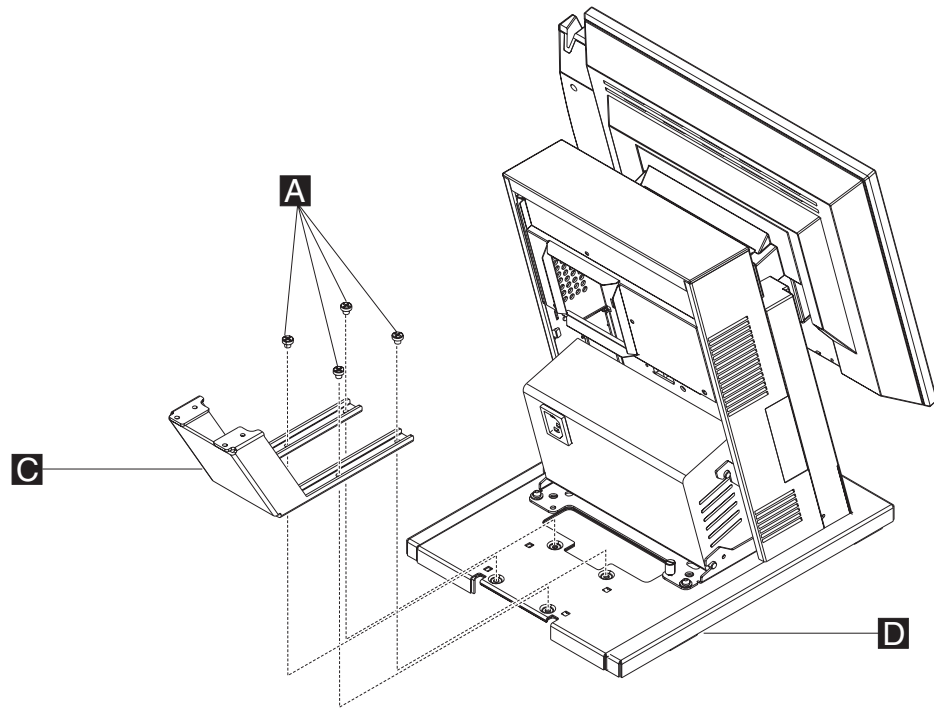

Figure 104. Removing the 4820 SurePoint Solution display from the base plate.
5. See Figure 104 on page 129. Remove the 4820 base plate **C** from the SurePOS 500 Models 5x3 and 544/564 mounting foot **D** by removing the screws **A**, as shown in Figure 104 on page 129.